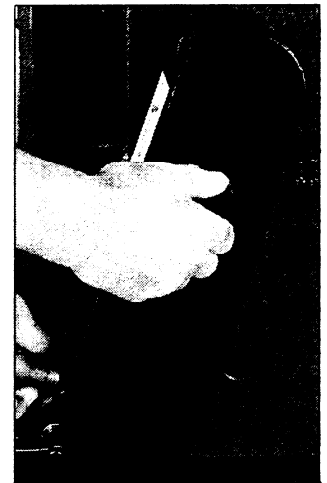
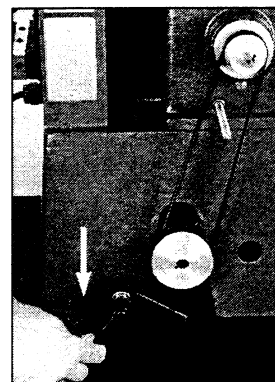
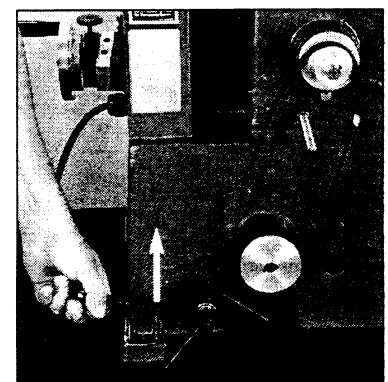

Figure 9
Figure 10
Figure 11
1. The 3 spindle speeds on the EEER301A are 60, 120, & 170 RPM's. To select the desired speed, remove the belt guard by unscrewing the belt guard knob at the rear of machine (**Figure 9**). Loosen the belt tensioning lock handle (**Figure 10**). Lift the motor bracket handle which will raise the motor and allow the belt to be moved to a different pulley groove (**Figure 11**).